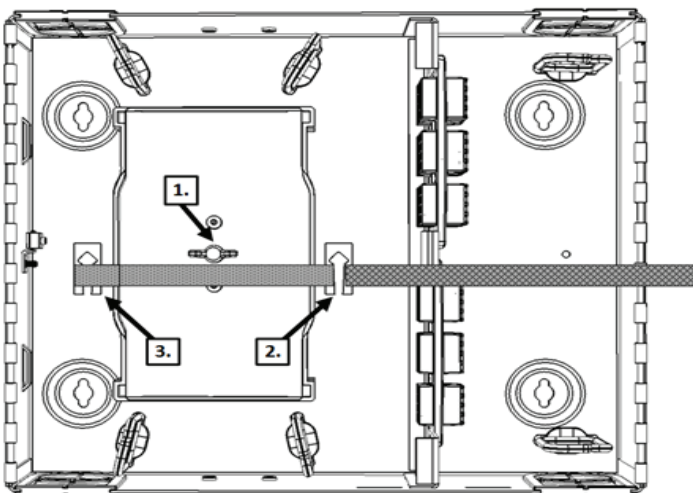

Figure 9
2. Insert Velcro strip under the first arrow lance point with the hook side facing up (Figure 9).